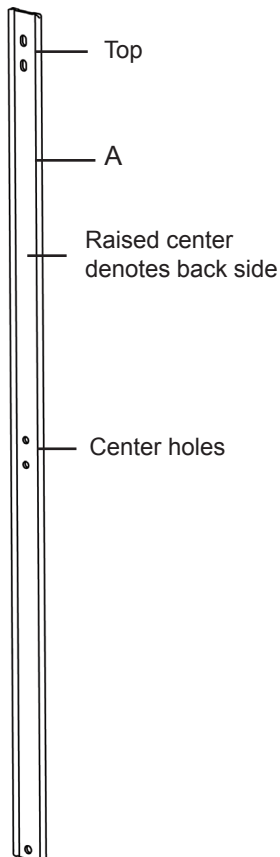

Figure 1
1. Locate the set of holes near the center of the strap. Place one Z-bracket against the back of the vertical strap with the short leg oriented towards the bottom of the strap (see Figures 1 and 2). Secure with the 1/4"-20 x 3/4" long screw (C) and one hex lock nut (F) (finger tighten only for now).